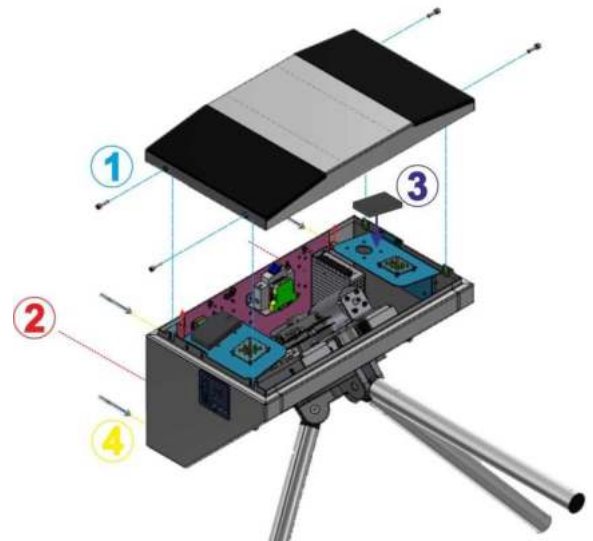

Fig. 18 – General view of the "SKULL-M" tripod turnstile assembly
10) The lid to be removed by unscrewing 4 screws on butt ends to access to the "SKULL-M" tripod turnstile fixation and service holes as well as terminal blocks (See Fig.18).